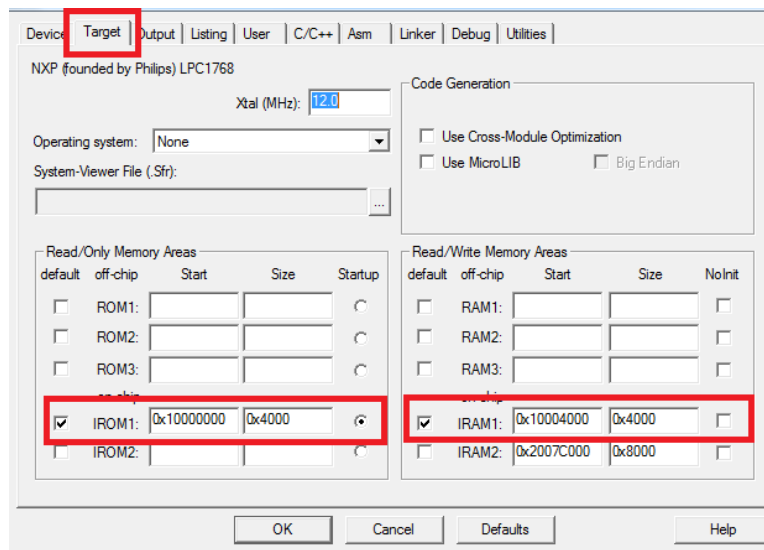

Figure 1.10: Keil IDE: Target In-Memory Execution Memory Map Configuration
- the in-memory execution memory map is used (see figure 1.10); and